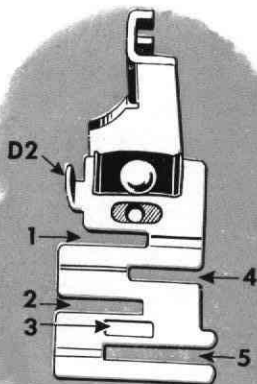

Fig. 52. The Edge Stitcher
Fasten this attachment to presser bar in place of presser foot. See that needle enters center of needle hole. The distance from line of stitching to edge of material in slots is regulated by moving lug **D2**, **Fig. 52** to right or left.
1. Insert one of laces in slot **1** of edge stitcher and the other in slot **4**, **Fig. 52**.
2. Insert piping with its folded edge to left in slot **3** and edge to be piped in slot **4**, **Fig. 52**.
1. Place garment under edge stitcher and tape in slot **1** or **4**, **Fig. 52**.
2. Insert the edge in slot 5, Fig. 52, and adjust lug D2 to stitch as close to the edge as desired.